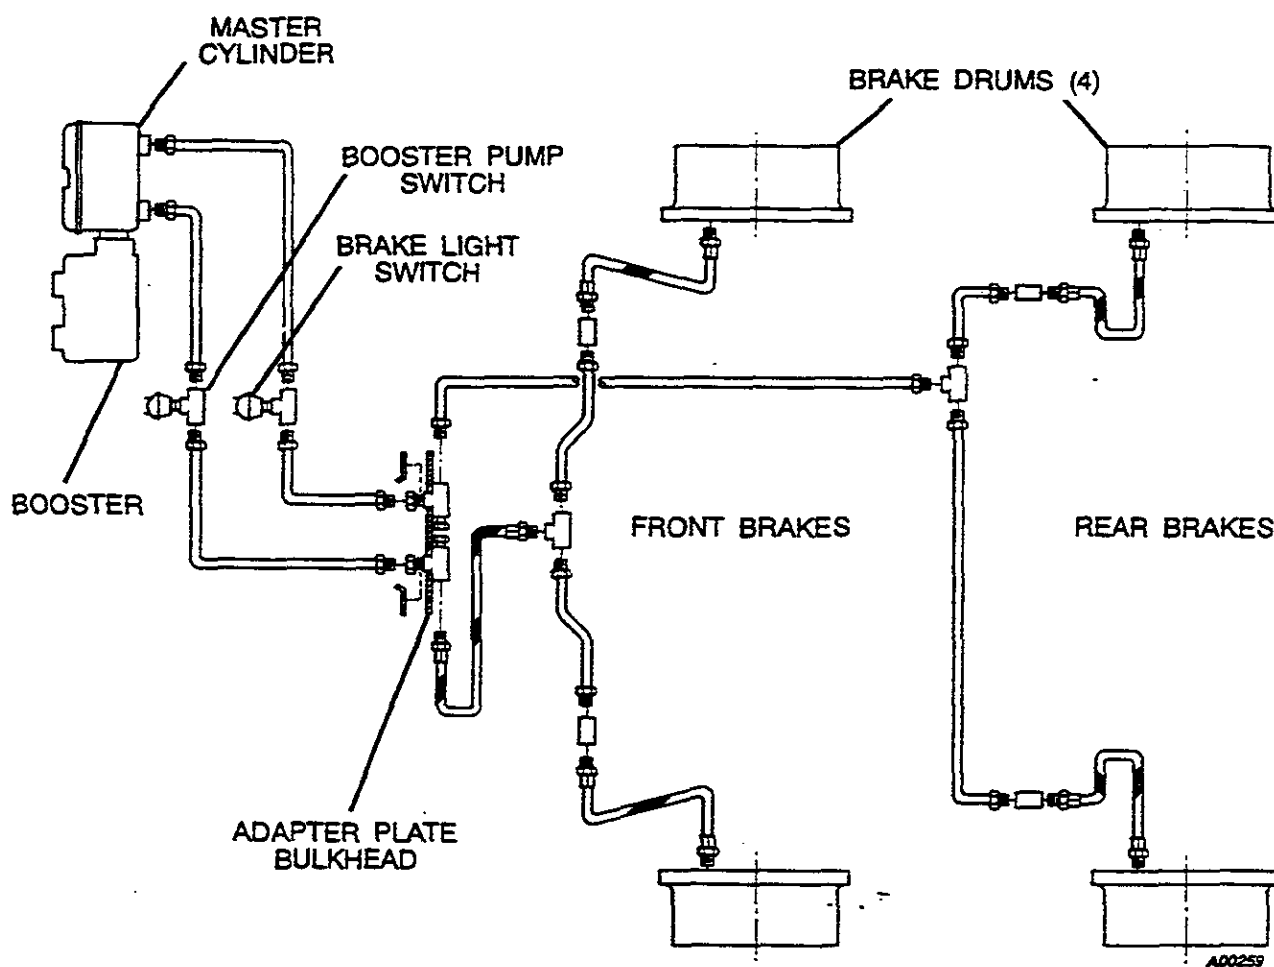

FIGURE 1.5 HYDRAULIC BRAKE SYSTEM
1.12.1 The master cylinder and power booster assembly supply hydraulic brake fluid pressure to the brake cylinder at each wheel (Figure 1.5). Hydraulic power to the brake booster is supplied by a tandem-mounted, gear-type positive displacement pump driven off the hydraulic steering pump.